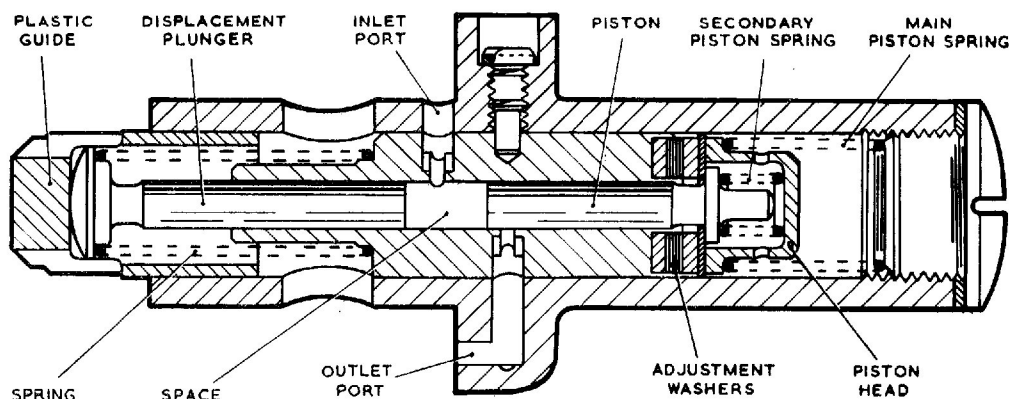

Fig. 2. Section view of micro pump unit
7. Towards the bottom of the stroke the plunger uncovers the inlet port permitting the entry of fluid. After the first third of its return stroke the port is completely masked, trapping a volume of fluid in the space between the plunger and piston. Movement of the plunger carries the fluid outwards against the resistance of the secondary piston spring until the outer end of the piston contacts the piston head. The main piston spring is then compressed until the piston partially uncovers the outlet port through which the fluid is discharged. As the cam revolves the plunger and piston will return to the position shown in fig. 2 under the influence of their respective springs. The volume of fluid trapped controls the output of the pump and can be varied between zero and maximum by altering the limiting position of the piston at the bottom of its stroke.